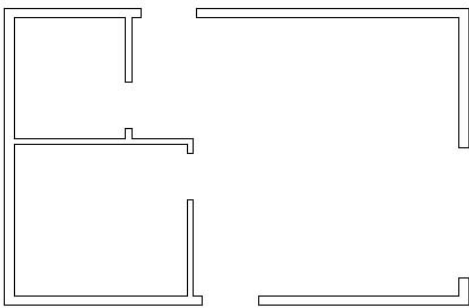

FIGURE 6.21: The floor plan with all layers frozen except the Walls layer and the 0 layer
- 5. Click OK. All objects in your drawing are invisible except the wall lines (see Figure 6.21). The wall lines are still on the 0 layer.